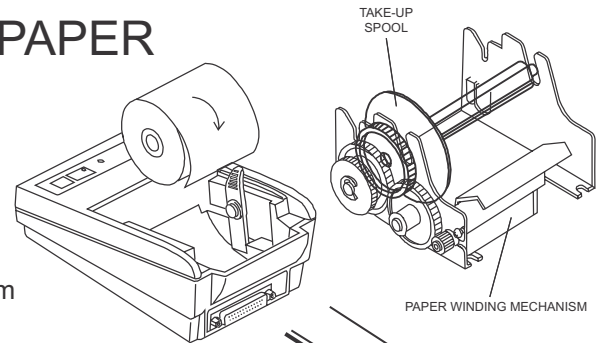

Fig. 1
- 4) Insert new paper roll as shown in fig. 1